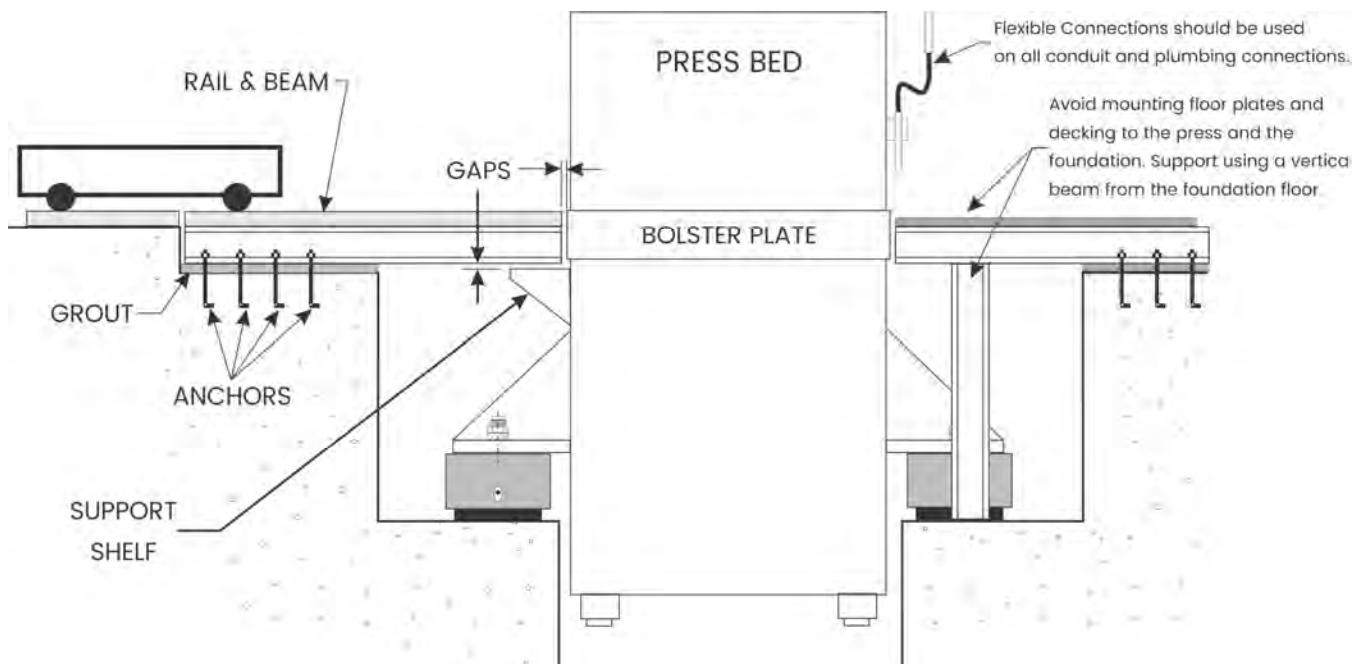

Figure 8
One of the following methods, shown in Figures 8 & 9, should be used. Either method will allow the press to move slightly up and down during operation and not restrict leveling adjustments.
1. METHOD ONE (Figure 8)
- The end of the beam/rail can also be supported by a vertical beam supported by the foundation pit or floor similar to the floor plate and decking recommendation shown in Fig. 8.
- All floor plate and decking should be supported as per Method One, Figure 8.